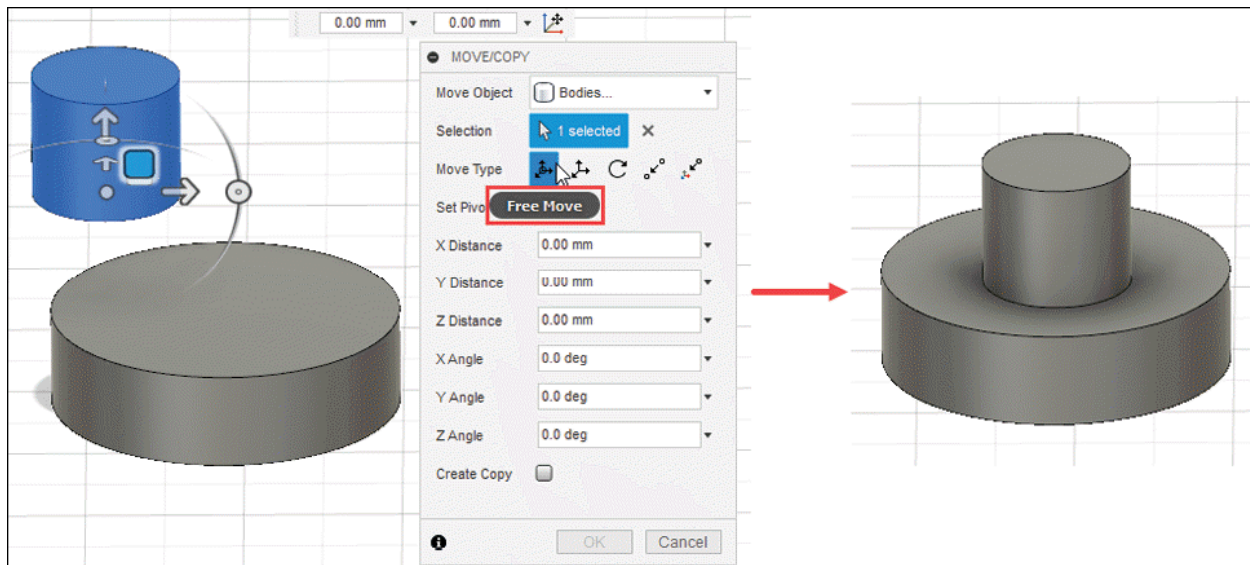

Figure-53. Free Move tool in Move Type section
- On selecting the **Free Move** button, a Manipulator will be displayed on the selected body. Use the Manipulator to move the body or enter the value in respective field of **MOVE/COPY** dialog box; refer to Figure-53.